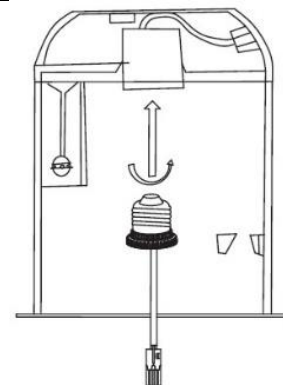

Figure 1
- Step 2. Twist the lamp base into the lamp holder. (Figure 1)